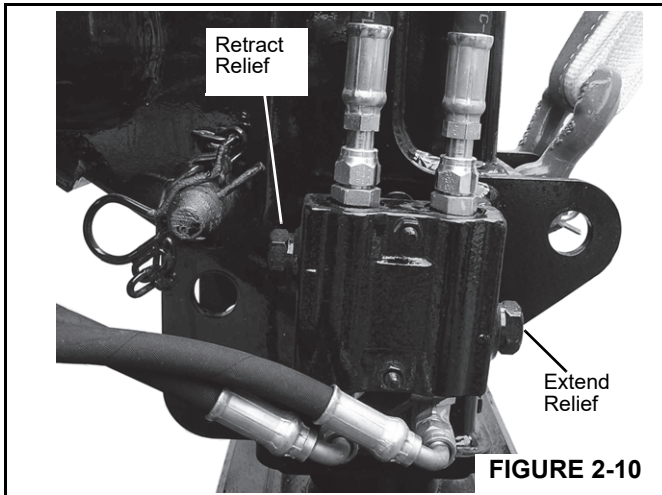

FIGURE 2-10
1. Disconnect the front outrigger extend and retract lines (Figure 2-10). Cap the retract line and install a gauge in the extend line.